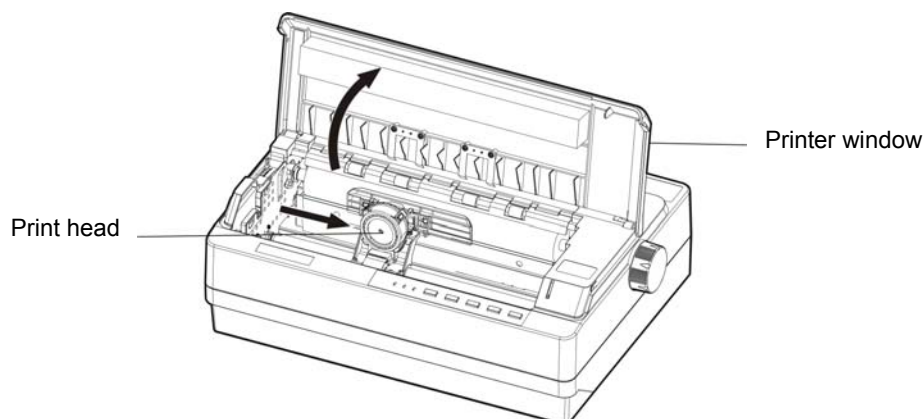

Figure 1-4 Open the window
- Slide the print head to the middle of the printer. (shown as figure 1-4)